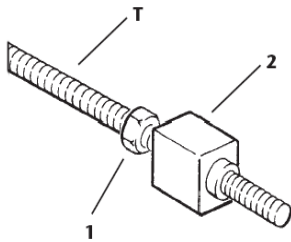

fig.27
1. Screw up the nuts **1** on the four staybolts **T** and insert the contrast panels **2** (fig. 27).